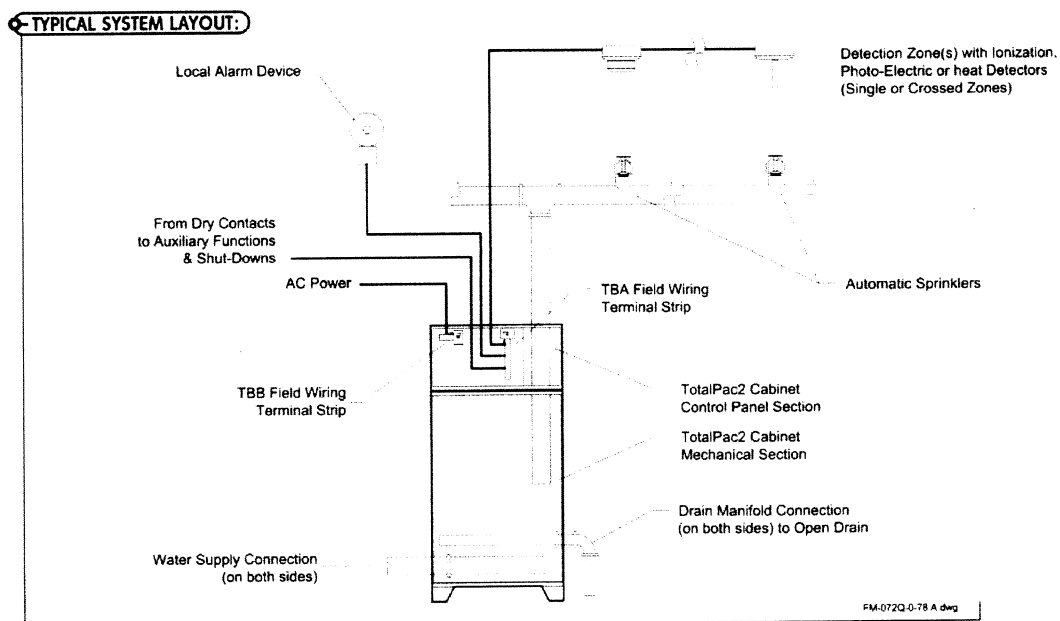

Fig 1
- 2.3 The ARC-1 is a modular microprocessor based control consisting of an enclosure with integral (LAA) local alpha-numeric annunciator display and user interface. The internal (PSA) power supply module and (BCA) battery charger module are independent of an internal rack enclosure and (MBA) mother board. The MBA accepts modular components such as (SCA/GIA) system control and galvanic isolation module, (SSA) system supervisory module, (TIA) transducer interface module, (SIA) system input modules, (SOA) system output modules and (ARA) auxiliary relay module. (see Fig 1 for a typical system layout)